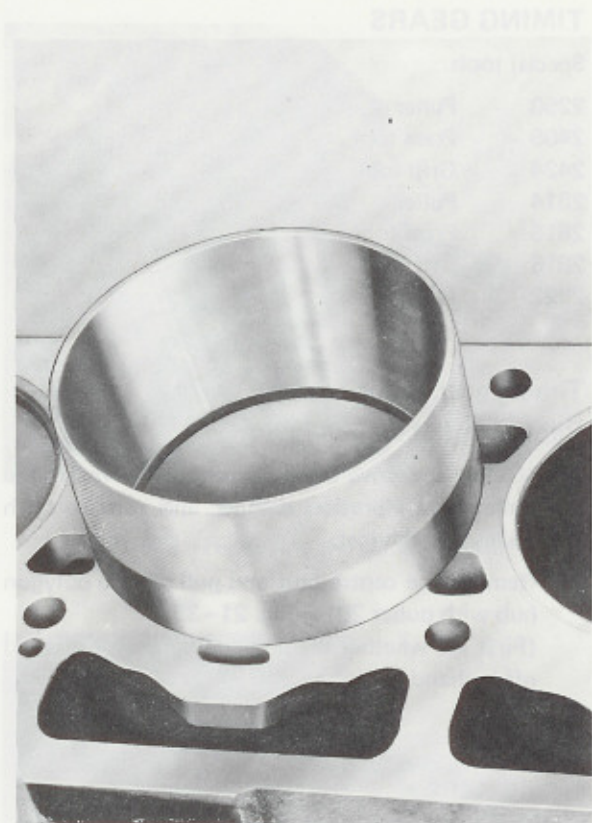

Fig. 21-34. Installing a piston
3. Fit the pistons with connecting rods in the cylinder bores. Use installation ring 2823, Fig. 21-34. Make sure that the number markings on the connecting rods are facing away from the camshaft side and that the groove in the gudgeon pin points forwards, Figs. 21-32 and 21-33.